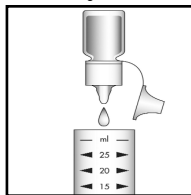

Figure 2
2. Add 7 drops of A-9200 Acidifier Solution (fig. 2). Stir to mix the contents of the cup.